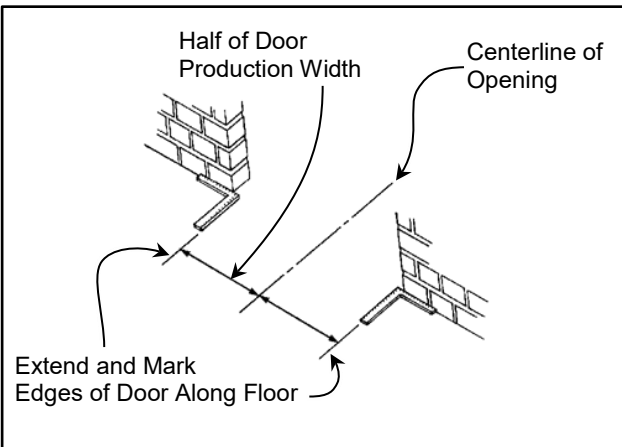

Figure 9
2. Using the centerline as a reference point, lay out and mark half of the door's production width along the floor. (See Figure 9)